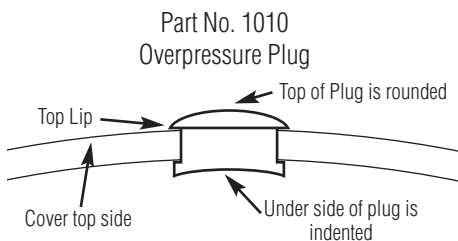

Fig. 7
6. OVERPRESSURE PLUG, PART NO. 1010 (See Fig. 7). Your sterilizer is also equipped with an overpressure plug which acts as an additional safety device. The plug is designed to automatically release pressure should pressure reach
overpressure plug and opening should be checked at least once per month. The overpressure plug may be removed using your fingers (NEVER REMOVE THE PLUG WHEN THE STERILIZER IS HOT). Once the plug is removed it is important to clean the opening in the cover where the plug goes to keep it clear of any foreign matter, residue or grease buildup that may occur. Next clean the opening with hot soapy water. After, inspect your plug and make certain that it is in good condition free of cracks, or becomes too hard or deformed. After cleaning reinsert the overpressure plug by pushing the round top side into the opening from the underside of the cover (See Fig. 7).